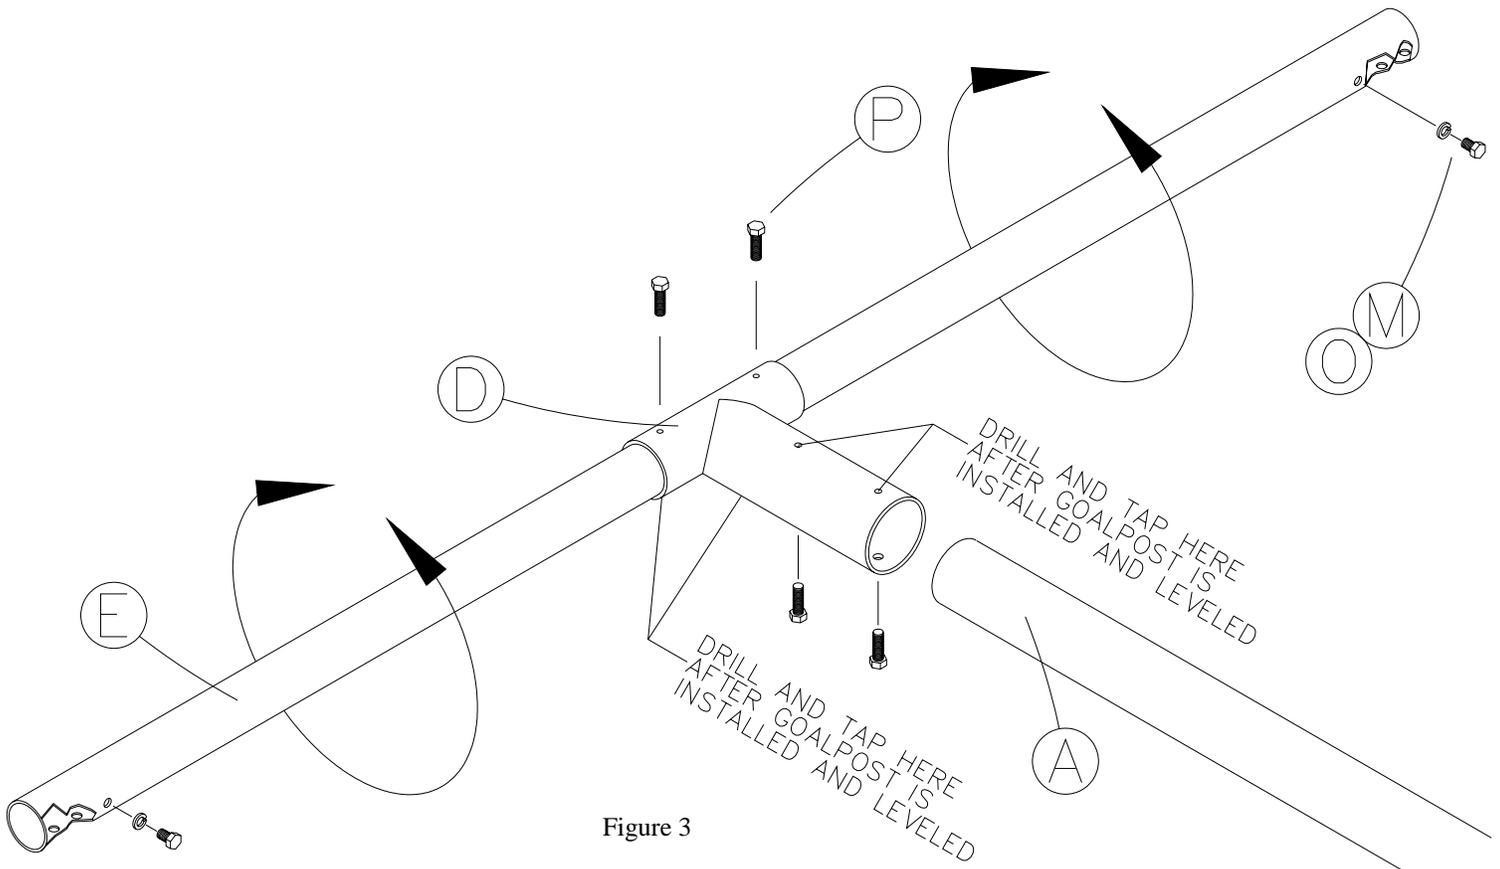

Figure 3
8. Remove the $5/8'' \times 1''$ Hex Bolts (O), and $5/8''$ Lock Washers (M) to remove both Adjustable End Caps (J). Slide "T" Adapter (D) onto Crossbar (E), and center on cross bar. Use caution not to damage the powder coated finish. Orient the "T" Adapter (D) in the center of the crossbar with the opening for the gooseneck pole 90° from the 2 drilled holes on the bottom of each end of the crossbar with the 2 threaded holes facing the Gooseneck Pole (A). The threaded crossbar holes on the "T" Adapter (D) should face up. Once you have the "T" Adapter (D) and Crossbar (E) positioned in the approximate location tighten the crossbar using $3/8'' \times 1''$ Hex Bolts (P). See Figure 3.
9. It is recommended to use 4 people with sufficient height step ladders to hoist "T" adapter and crossbar assembly onto the end of the Gooseneck Pole (A). Make sure the "T" Adapter (D) is on the pole as far as it can go. Level the Crossbar (E). Using the $3/8'' \times 1''$ Hex Bolts (P) tighten "T" adapter and crossbar assembly to the gooseneck pole. Make sure that the crossbar is level before hardware is tightened. See Figure 3.
15. Using a sharp $7/16''$ drill bit, drill through the four pre-drilled pilot holes in the “T” *Adapter* (D) and into the *Crossbar* (E) and *Gooseneck Pole* (A). Use a $1/2''$ -13 tap to thread the holes. These holes are indicated by removable labels. See Figures 3 & 5.
16. Use the $1/2'' \times 1''$ *Hex Bolts* (H) to attach the *Crossbar* (E) and the *Gooseneck Pole* (A) to the “T” adapter assembly. See Figure 3.
17. Remove the previously installed $3/8" \times 1"$ Hex Bolts (P), and drill out the holes using the $7/16"$ drill bit going through the "T" Adapter (D) and one wall in the Gooseneck Pole (A) and the Crossbar (E). Using a $1/2"-13$ tap, thread the holes.
18. Using the $1/2" \times 1"$ Hex Bolts (H) secure the Crossbar (E) and Gooseneck Pole (A) to the "T" Adapter (D). See Figure 3.
19. For adjusting to high school or college width, remove the $5/8" \times 1 1/2"$ Hex Bolts (L), $5/8"$ Lock Washers (M), and the Crossbar Washer Plate (K) on the bottom side of the Crossbar (E). Insert a pole or pipe $1 1/2"$ in diameter into the bottom of the Adjustable End Cap (J) and slide out or in the Adjustable End Cap (J) until it stops. Do this on both ends of the Crossbar (E). Reinstall and tighten all hardware.